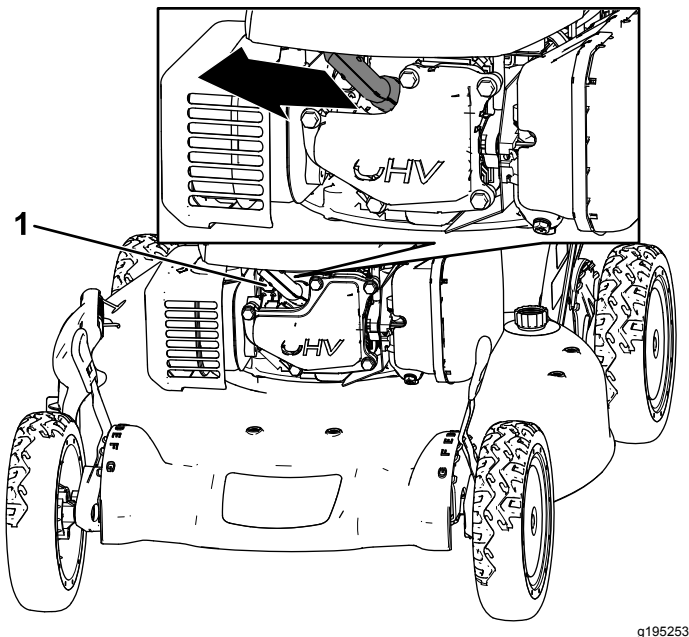

Figure 30
2. Disconnect the spark-plug wire from the spark plug (Figure 30).